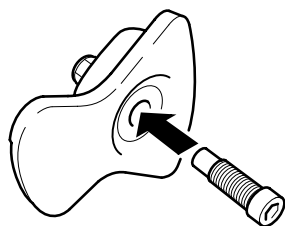

Fig. 3
- Insert the locking bolt into the rim specific insert. (Fig. 3)